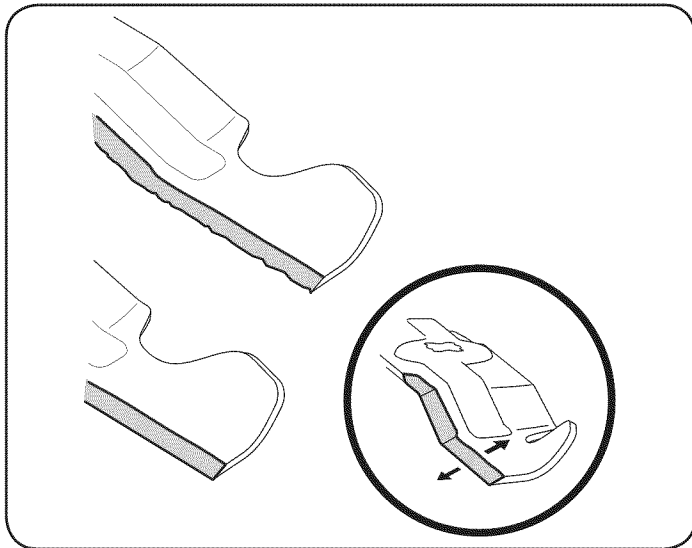

Figure 25
4. To properly sharpen the cutting blades, remove equal amounts of metal from both ends of the blades along the cutting edges, parallel to the trailing edge, at a 25°- to 30° angle. Always grind each cutting blade edge equally to maintain proper blade balance. See Figure 25.